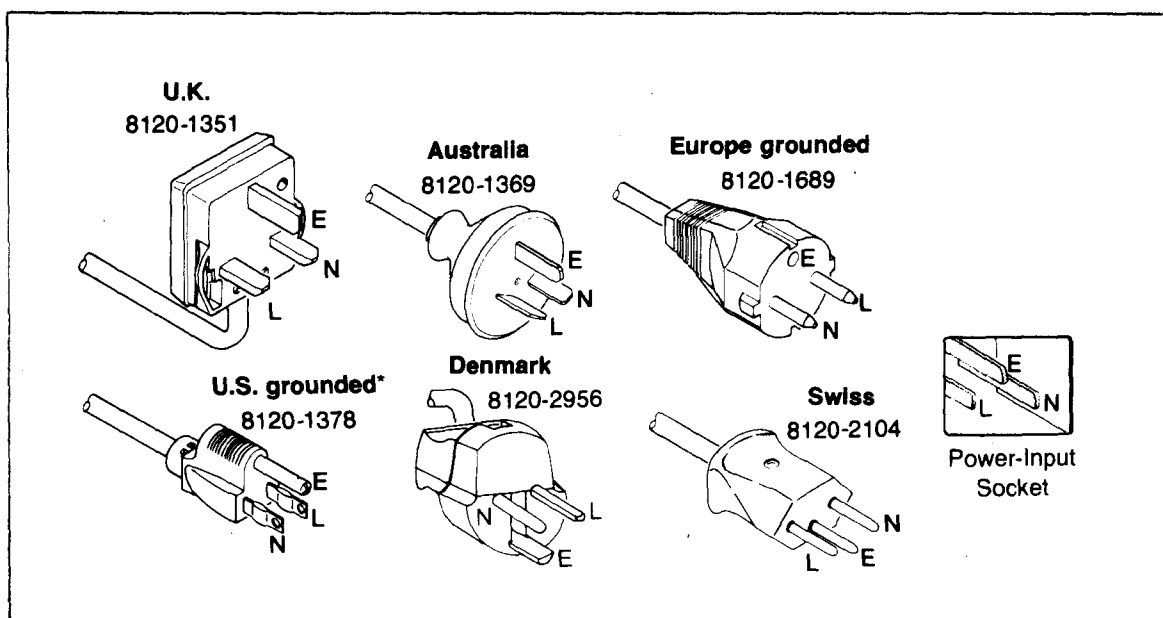

Figure 3-1. Power Cords
Power cords with different plugs are available for the HP 8451. The part number, along with an illustration, of each cord is shown in Figure 3-1. Each plug has a ground connector. The cord packaged with the instrument depends on where the instrument was delivered. If your equipment has the wrong power cord for your area, please contact your local Hewlett-Packard Office for information on how to obtain the proper cord.
*See Figure 3-1 for other power cables.